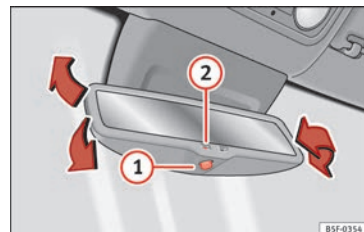

Fig. 19
Switching on the automatic anti-dazzle function: press the ① » » Fig. 19 button. The ② warning lamp lights up and, in bright light, the rear view mirror darkens.